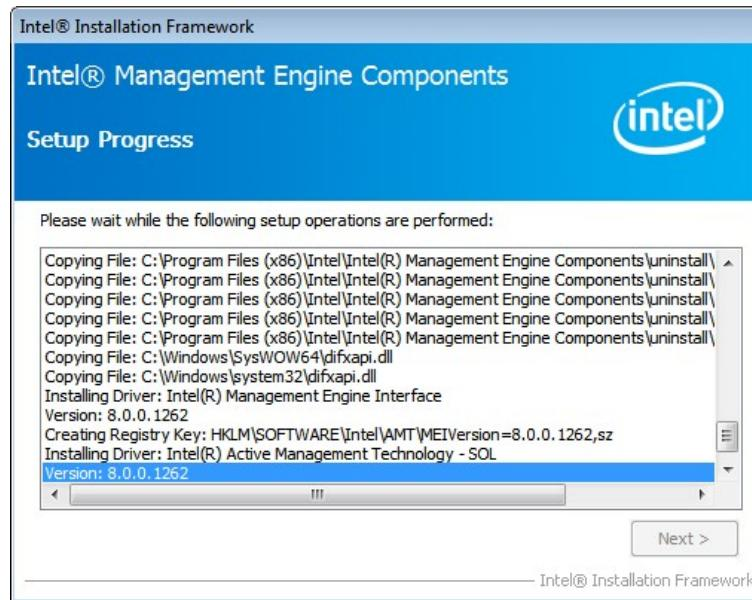

Figure 6-35: Intel® ME Driver Setup Operations
Step 9: Setup Operations are performed as shown in **Figure 6-35**.